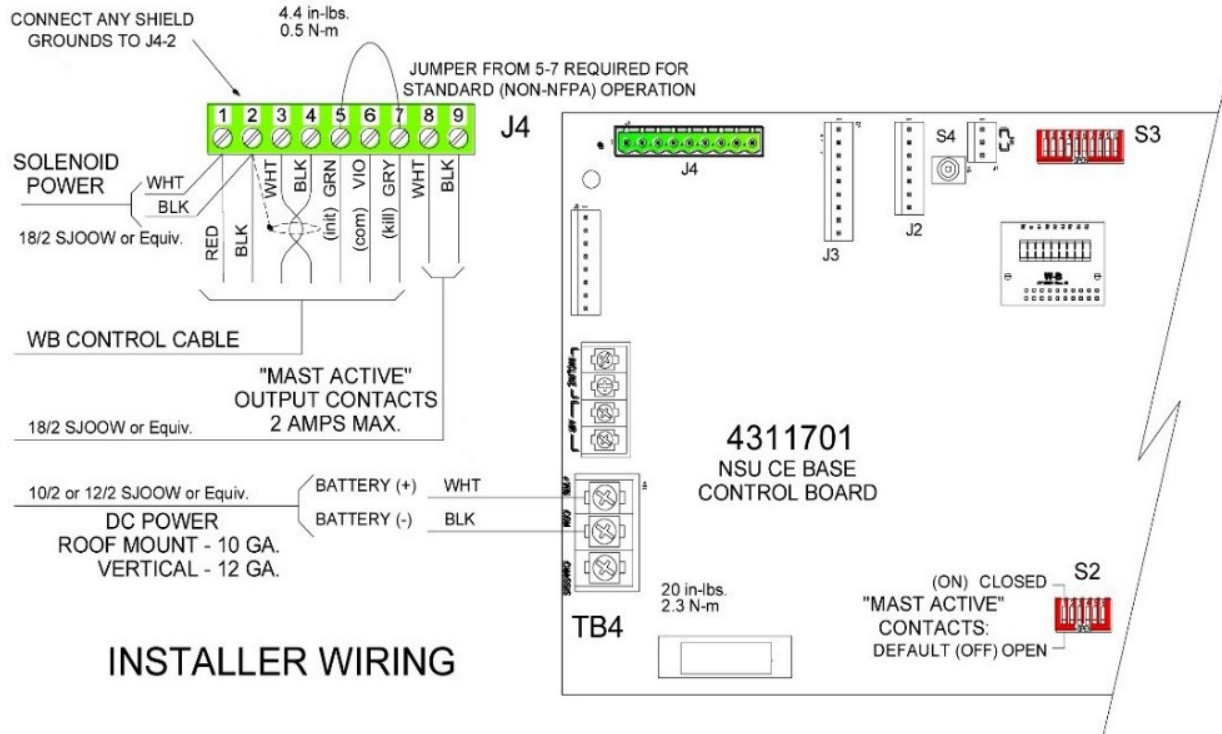

Figure 5-10 Wiring J4
- Connect the wires from the Bulkhead Cable (or PMRC Control Cable) to the green J4 connector located on the top left of the Base Board ensuring the wires match the color strip on the J4 connector (Figure 5-10). Connect the J4 connector to the Base Board.